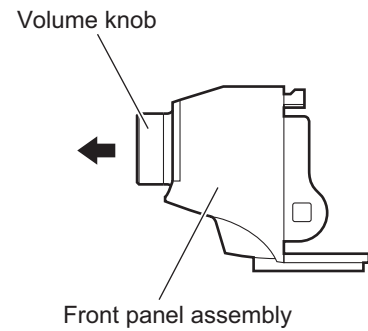

Fig.18
3.1.13 Removing the front board and LED illuminate board (See Figs.18 to 20)
- From the front side of the front panel assembly, pull out the volume knob in the direction of the arrow. (See Fig.18.)